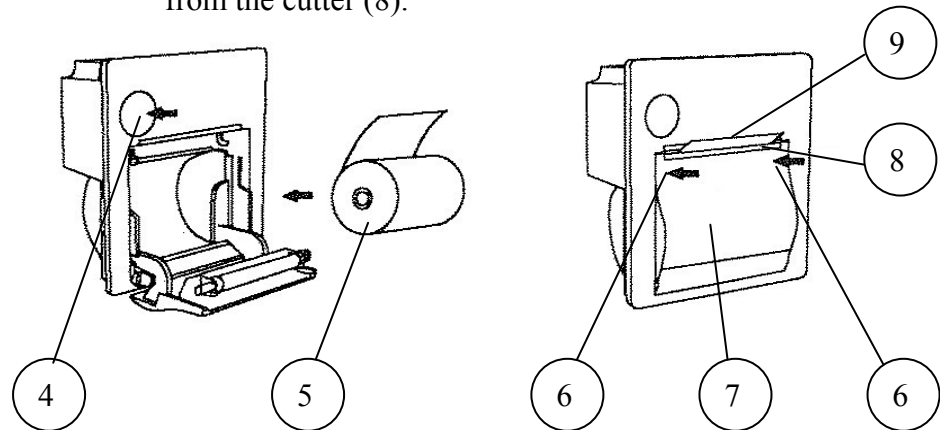

Fig. 2
2. Press the paper cover open button (4), and open the printer's paper cover. Handle the paper cutter (8) carefully not to cut your hand as shown on **Fig. 2**.
3. Set a paper roll (5) as shown on **Fig. 2**. The loose end of the paper roll must roll off the top of the paper roll, as shown in **Fig 2**.
4. Close the paper cover (7) by pressing both ends of the cover (6) with the tip end of the paper (9) emerging from the cutter (8).